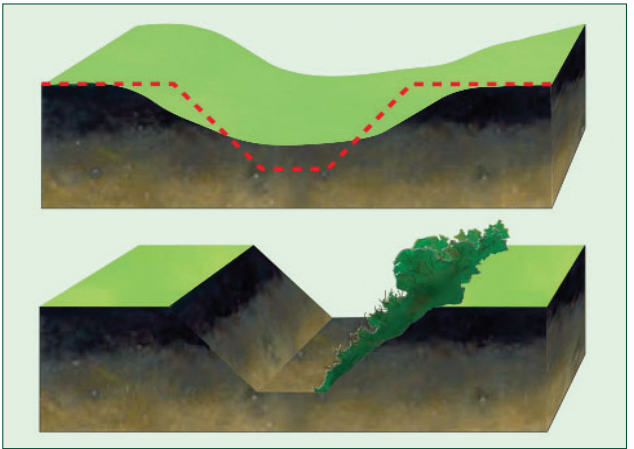

Figure 2: Maintenance of open drains changes the shape of the drain and makes them more efficient for water transport.
- Open drains should be clean and as deep as possible with a graded profile (Figure 2).